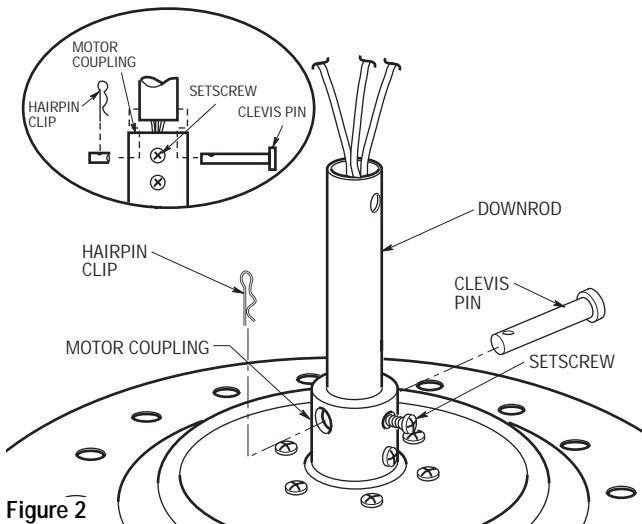

Figure 2
2. Unscrew the setscrew (Figure 2) until it clears the inside of the motor coupling. Then separate, untwist and unkink the three 80" motor leads. Route the motor lead wires through the downrod. Align the clevis pin holes in the downrod with the holes in the motor coupling. Install the clevis pin and secure with the hairpin clip (Figure 2). The clevis pin must go through the holes in the motor coupling and the holes in the downrod. Be sure to push the straight leg of the hairpin clip through the hole near the end of the clevis pin until the curved portion of the hairpin clip snaps around the clevis pin. The hairpin clip must be properly installed to prevent the clevis pin from working loose. Pull on the downrod to make sure the clevis pin is properly installed.
It is critical that the clevis pin in the motor coupling is properly installed and the setscrew securely tightened. Failure to verify that the pin and setscrew are properly installed (as shown in Figure 2) could result in the fan falling.
3. Tighten the setscrew (Figure 2) securely while pulling up on the downrod.